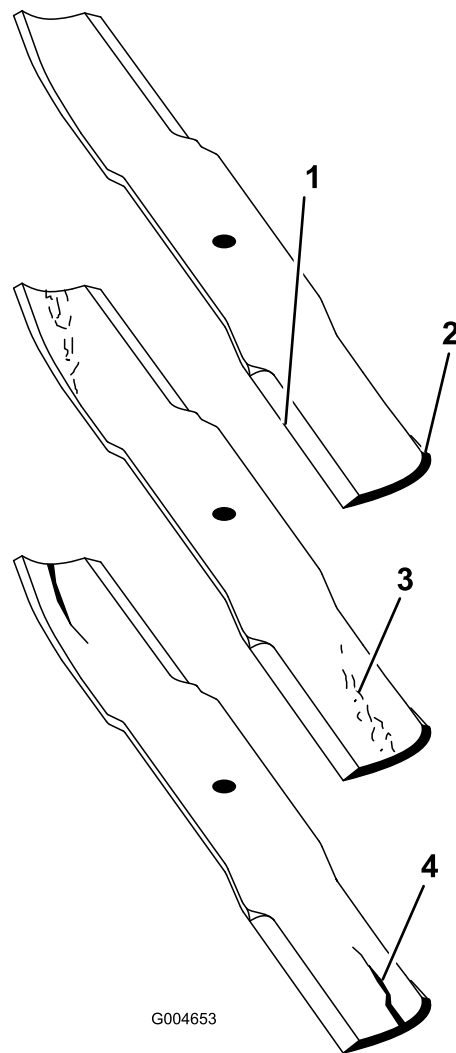

Figure 84
2. Examine the cutting ends of the blade carefully, especially where the flat and curved parts of the blade meet (Figure 84). Since sand and abrasive material can wear away the metal that connects the flat and curved parts of the blade, check the blade before using the mower. If wear is noticed (Figure 84), replace the blade.